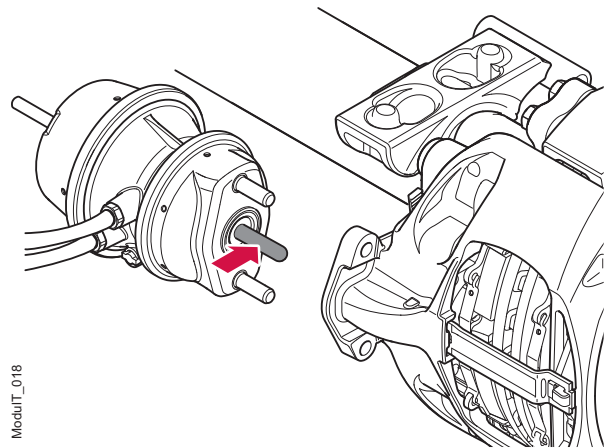

Figure 24. The actuation rod
6. With the brake chamber removed and secured, the brake chamber actuation rod should protrude ~15 mm in its rest position, See figure 24.